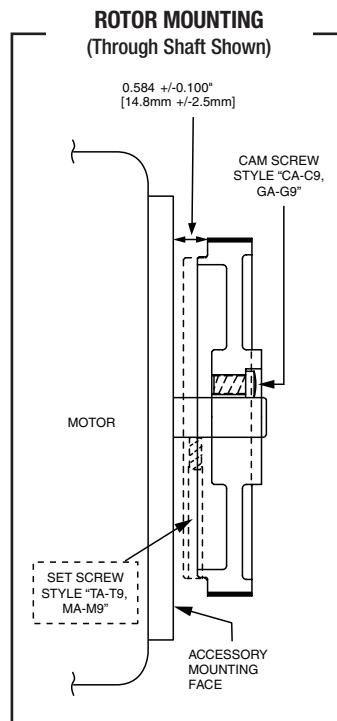
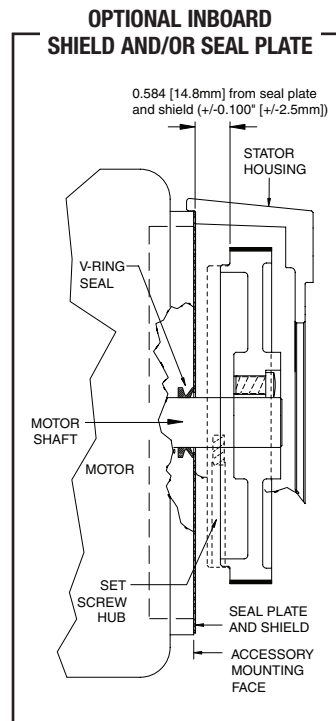

FIGURE 2
FIGURE 3
7. Mount rotor per instructions below, but increase axial position from motor to rotor to 0.620" [15.75mm] (from 0.584") to accommodate the inner seal plate thickness. See Figure 3.
4. Install rotor as usual, but gage location from the shield. See Figure 3.
4. Slide the rotor onto the stub shaft. The space between the mounting face and the magnetic strip of the rotor must be set to 0.584", as shown in Figure 2. Use Avtron gauges (A25355 or A35226) or use housing alignment grooves as shown in Figure 5 to verify position.
2. Slide the rotor on the shaft (option "B" or "T"), ensuring the rotor label "this side out" is away from the motor. The space between the mounting face and the rotor must be set to 0.584" [14.83mm], as shown in Figure 2. Use Avtron gauges (A35226 or A25355) or housing alignment grooves as shown in Figure 5 to verify position. (Note: if optional inboard seal or shield plate is used, gage the rotor location from the seal shield plates. See Figure 3.)
- 2a. If using a set screw rotor (TA-T6), apply threadlocker to the set screws (2) and tighten to 25 in-lbs.